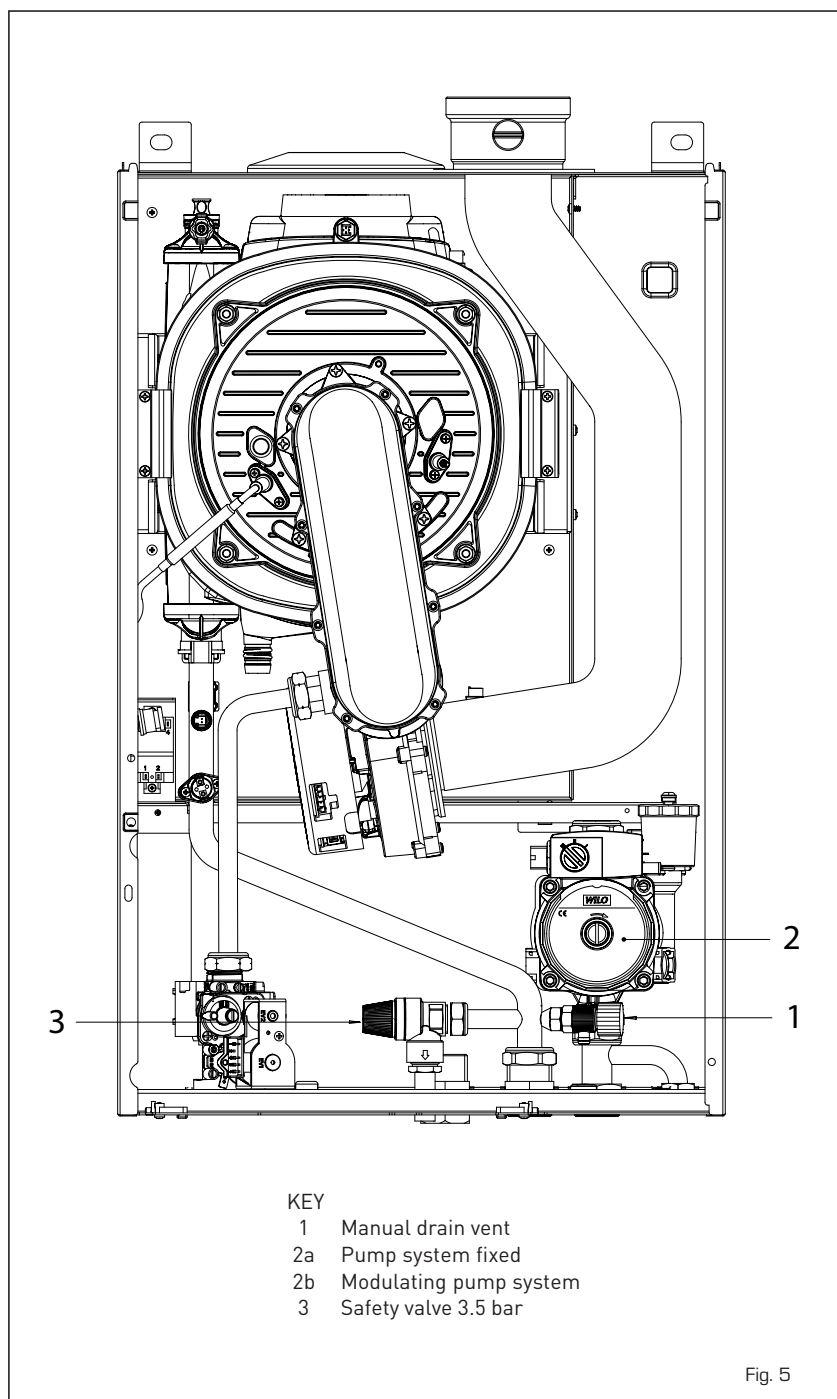

Fig. 5
2.4 INITIAL PHASE SYSTEM FILLING (fig. 5)
2.4.1 System draining (fig. 5)
To drain the system, turn off the boiler, isolate the flow and return, and use the boiler drain vent (1 fig. 5).
2.4.3 Requirements for sealed water systems MURELLE HE 50 R (fig. 5/b)